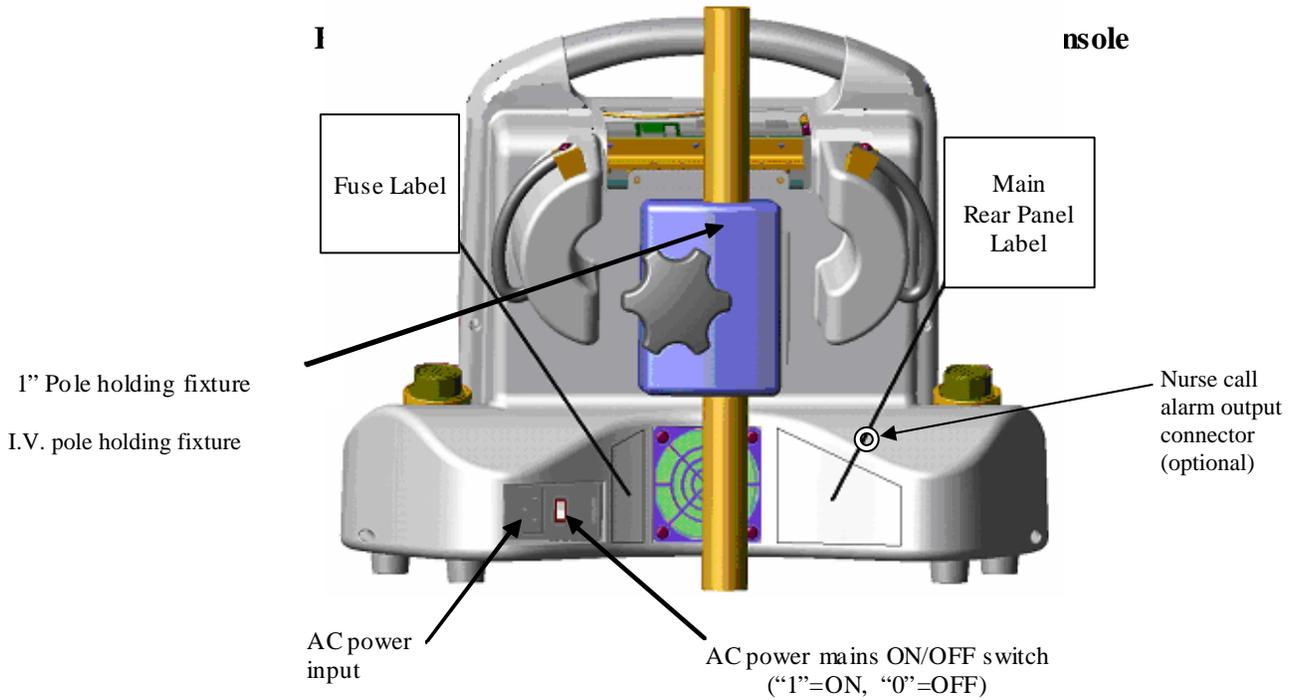

Figure 2: Rear of ViOptix™ Tissue Oximeter Console
- a. Plug the AC (alternating current) power cord into the back of the T.Ox™ Tissue Oximeter computer console module (see Figure 2).
- c. Place the back panel AC Power Switch to the **ON (1)** position
- e. Attach optional 10 foot nurse call alarm output cable from the nurse call output connector (refer to Figure 2) and an available bedside nurse call system jack. To attach the cable, press the cable's circular connector onto the rear panel connector and rotate until it clicks and locks. To detach cable, pull back on the cable connector's metal sleeve.